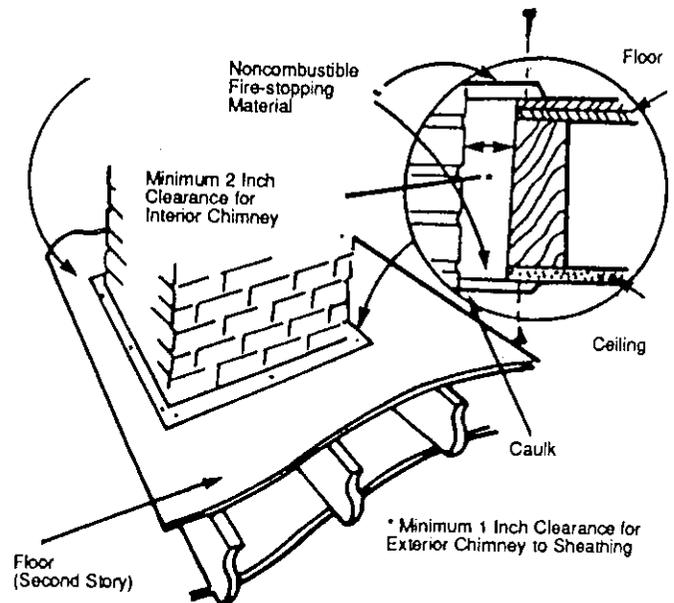

Figure 5
- A chimney inside the house must have at least 2" of clearance to the combustible structure. A chimney outside the house must have at least 1" clearance to the combustible structure. Fire stops must be installed at the spaces where the chimney passes through floors and/or ceilings (Figure 5).